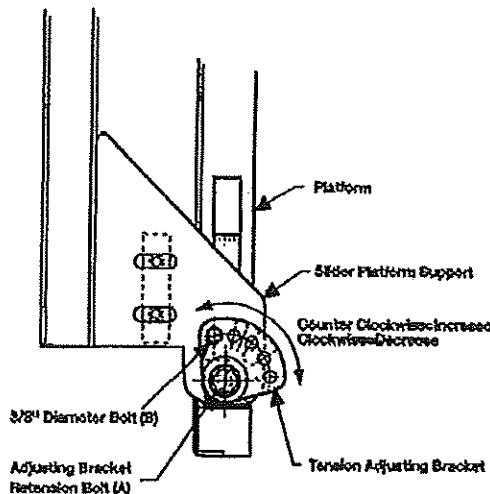

Fig.3
12. Torsion bar adjustment (See figure 3).
- Remove 5/8" diameter bolt (A) from center of tension adjusting bracket.
- Turn breaker bar clockwise to relieve tension on 3/8" diameter bolt (B) and remove it from the bracket.
- To Increase tension, rotate bracket counterclockwise until desired tension is reached. Line up hole in bracket to hole in slider platform support and replace bolt (B).